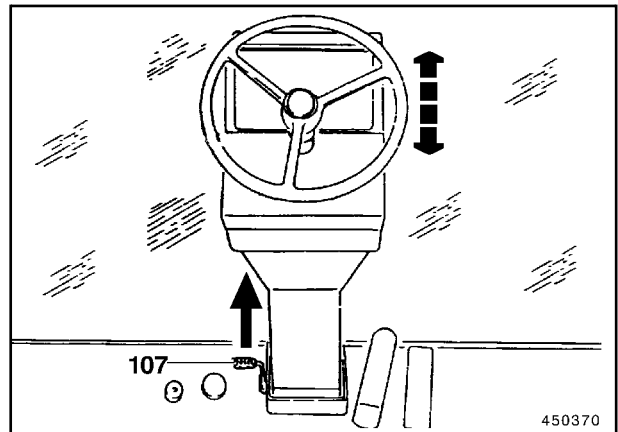

Fig. 5
- Push lever (107, Fig. 5) forwards with your foot to unlock the steering column.
- Release lever (107) to relock the steering column.